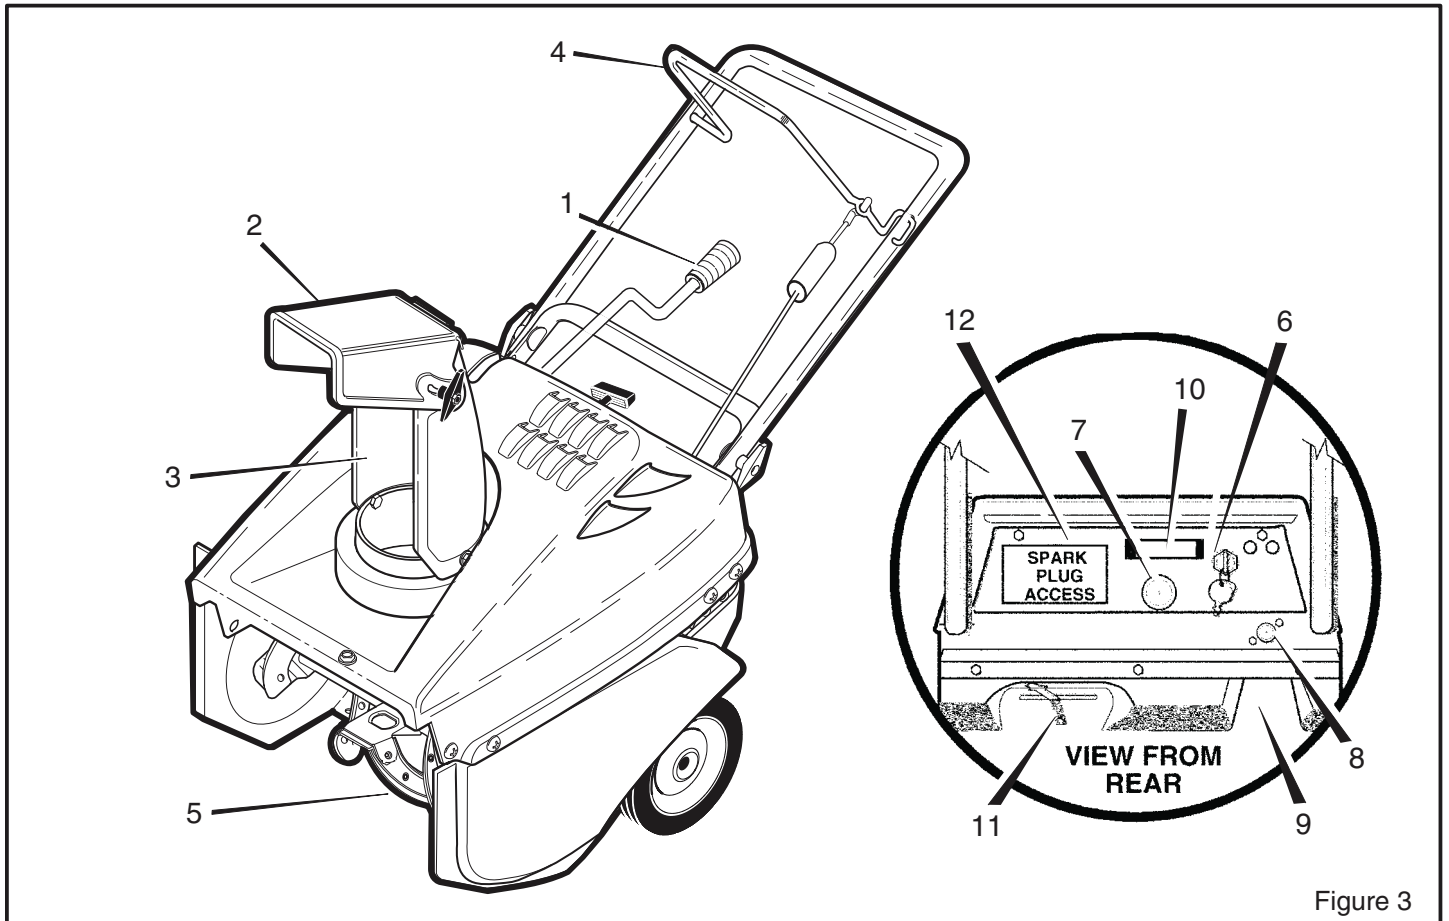

Figure 3
Figure 3 shows the snowthrower in the operating position.
Control and Equipment Features (Figure 3)
Engine Features (Figure 3)
1. **(Figure 3)** Turn the crank assembly (1) to change the discharge direction of the snow.
1. **(Figure 3)** Engage the auger drive lever (4).
1. **(Figure 3)** To stop discharging snow, release the auger drive lever (4).
2. To stop the engine, turn the ignition key (5) to the OFF position.
1. **(Figure 3)** Hold the auger drive lever (4) against the handle (10). The auger will begin rotating.
2. To go forward, raise the handle (10) to allow the rubber auger blades (5) to contact the ground. Maintain a firm hold on the handle (10) as the snow thrower starts to move forward. Guide the snowthrower by moving the handle (10) either left or right. Do not attempt to push the snowthrower.
3. To stop, release the auger drive lever (4).
3. **(Figure 3)** Make sure the auger drive lever (4) is in the disengaged (released) position.
4. Insert the ignition key (6) and turn to the ON position.
5. Move the choke control (11) to the full choke position.
6. **(Electric Start)** Connect the power cord to the switch box (9) located on the engine.
8. Push the primer button (7) two times. Every time you push the primer button (7), wait two seconds.
9. **(Electric Start)** Push on the electric start button (8) until the engine starts. Do not crank for more than 10 seconds at a time. The electric starter is thermally protected. If the electric starter overheats, it will automatically stop and can be restarted when it has cooled to a safe temperature. A wait of about 5 to 10 minutes is required to allow the electric starter to cool.
10. **(Recoil Start)** Rapidly pull the recoil starter handle (10). Do not allow the recoil starter handle (10) to snap back. Slowly return the recoil starter handle (10).
12. **(Electric Start)** When the engine starts, release the electric start button (8) and move the choke control (14) to 1/2 choke position. When the engine runs smoothly, move the choke control (11) to the OFF position.
(Figure 3) If an engine has been running and is still warm, leave the choke control (11) in the OFF position and do not push the primer button (7). If the engine fails to start, follow the instructions “How To Start A Cold Engine.”
1. **(Figure 3)** Pull out the recoil starter handle (10) as far as possible.
2. Quickly release the recoil starter handle (10) to snap back against the recoil starter.